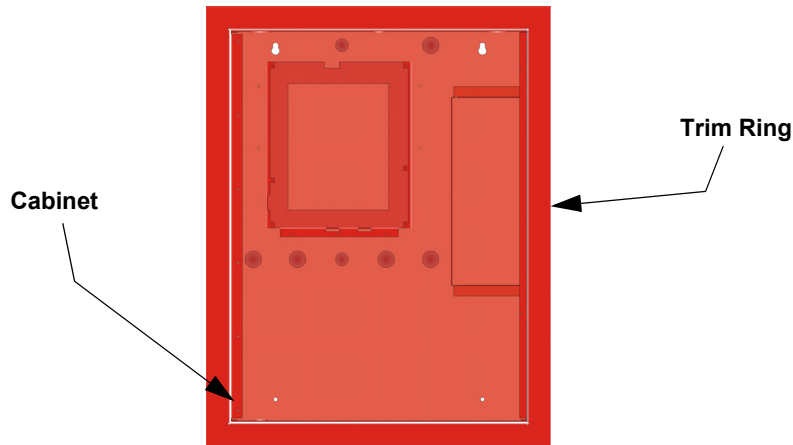

Figure 4-3 Trim Ring Around cabinet
4. Place the trim ring around the cabinet. See Figure 4-3.